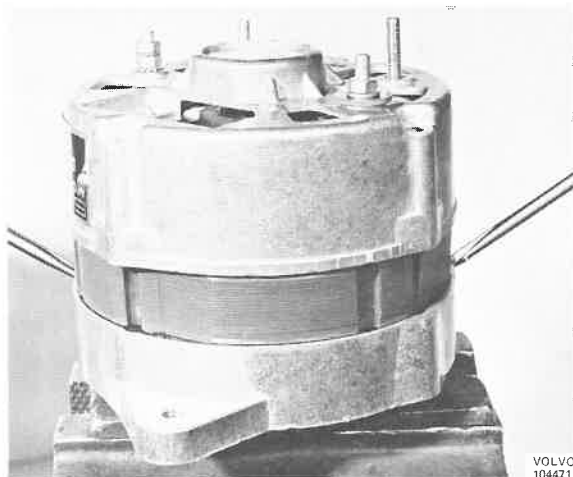

Fig. 32-10. Disassembling alternator
5. Remove the stator and slip ring end shield with the help of two screwdrivers which are inserted in two of the sockets between the stator and drive end shield, see Fig. 32-10.